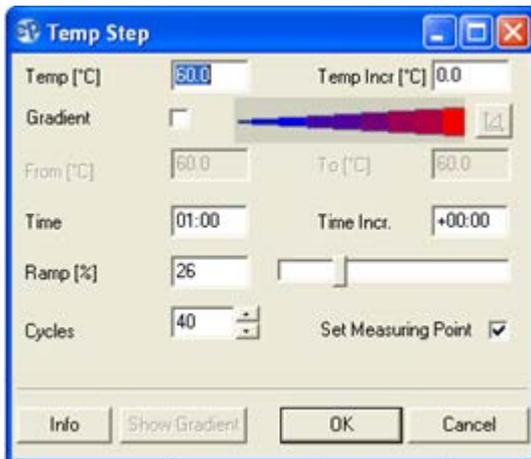

Figure 7. Temp Step parameters.
13. Double-click the lightning icon in segment 3. The Temp Step window will appear. Uncheck "Gradient" and change the Ramp [%] to 26.\* The final Temp Step parameters should appear as in Figure 7. Click OK.